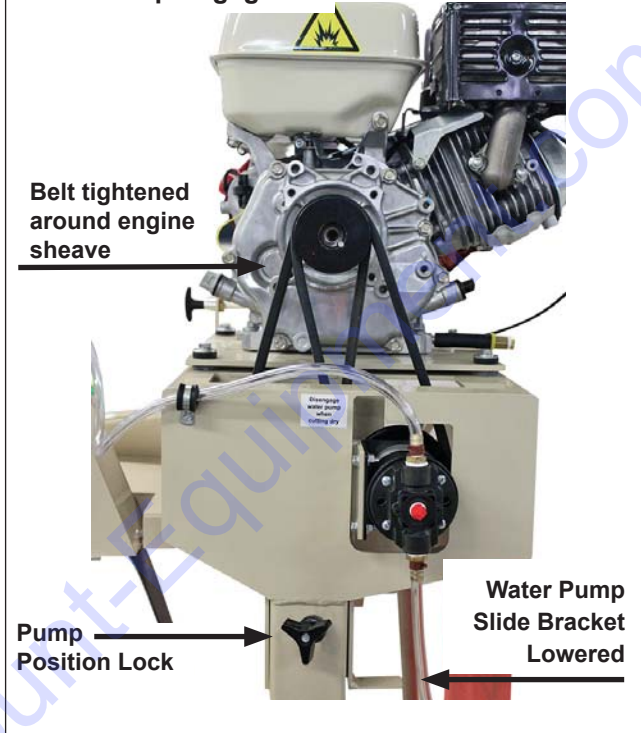

Figure 7
- Engage the water pump by loosening the pump position lock, lower the water pump slide bracket and retighten the pump position lock. (Figure 7)